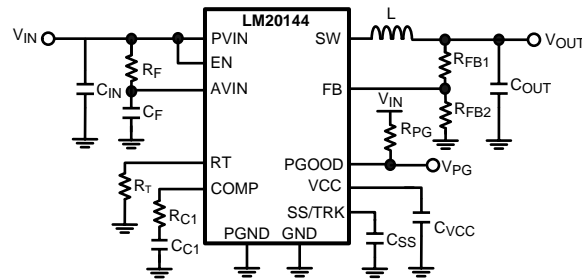

Figure 28. Typical Application Circuit
The LM20144 switching regulator features all of the functions necessary to implement an efficient low voltage buck regulator using a minimum number of external components. This easy to use regulator features two integrated switches and is capable of supplying up to 4A of continuous output current. The regulator utilizes peak current mode control with nonlinear slope compensation to optimize stability and transient response over the entire output voltage range. Peak current mode control also provides inherent line feed-forward, cycle-by-cycle current limiting and easy loop compensation. The switching frequency can be varied from 500 kHz to 1.5 MHz. The device can operate at high switching frequency allowing use of a small inductor while still achieving high efficiency. The precision internal voltage reference allows the output to be set as low as 0.8V. Fault protection features include: current limiting, thermal shutdown, over voltage protection, and shutdown capability. The device is available in the TSSOP 16-pin package featuring an exposed pad to aid thermal dissipation. The LM20144 can be used in numerous applications to efficiently step-down from a 5V or 3.3V bus. The typical application circuit for the LM20144 is shown in Figure 28 in the design guide.
This section walks the designer through the steps necessary to select the external components to build a fully functional power supply. As with any DC-DC converter numerous trade-offs are possible to optimize the design for efficiency, size, or performance. These will be taken into account and highlighted throughout this discussion. To facilitate component selection discussions the circuit shown in Figure 28 below may be used as a reference. Unless otherwise indicated all formulas assume units of amps (A) for current, farads (F) for capacitance, henries (H) for inductance and volts (V) for voltages.
To prevent high frequency noise spikes from disturbing the sensitive analog circuitry connected to the AVIN and AGND pins, a high frequency RC filter is required between PVIN and AVIN. These components are shown in Figure 28, as C_F and R_F . The required value for R_F is 1Ω. C_F must be used. Recommended value of C_F is 1.0 μF. The filter capacitor, C_F should be placed as close to the IC as possible with a direct connection from AVIN to AGND. A good quality X5R or X7R ceramic capacitor should be used for C_F .